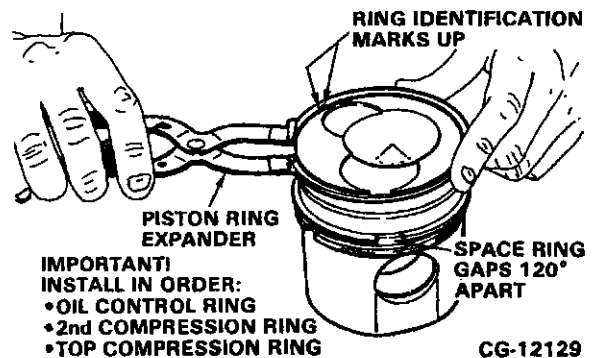

Figure 6.51. Install Piston Rings
1. Install the rings onto the pistons using a piston ring expander tool as follows: Refer to Figure 6.51.